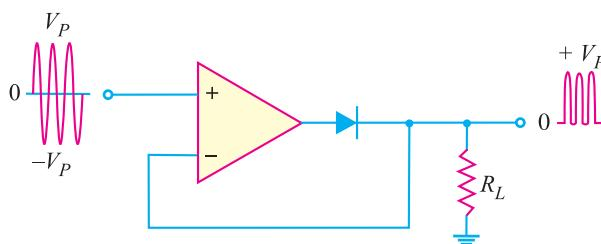

Fig. 23.19
**(v) Op-Amp Half-wave Rectifier.** Fig. 23.19 shows the half-wave rectifier using an \*Op-Amp. The use of Op-Amp greatly reduces the effect of diode offset voltage and allows the circuit to be used in the millivolt region.